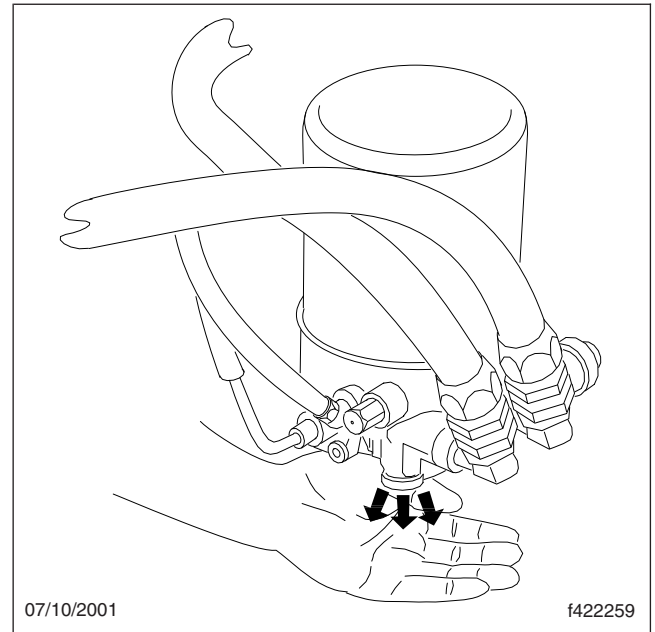

Fig. 1, Air Dryer Inspection
5. Place your hand under the air dryer purge valve, located at the base of the dryer; see Fig. 1. You should feel a light air flow that will continue until the air compressor unloads.